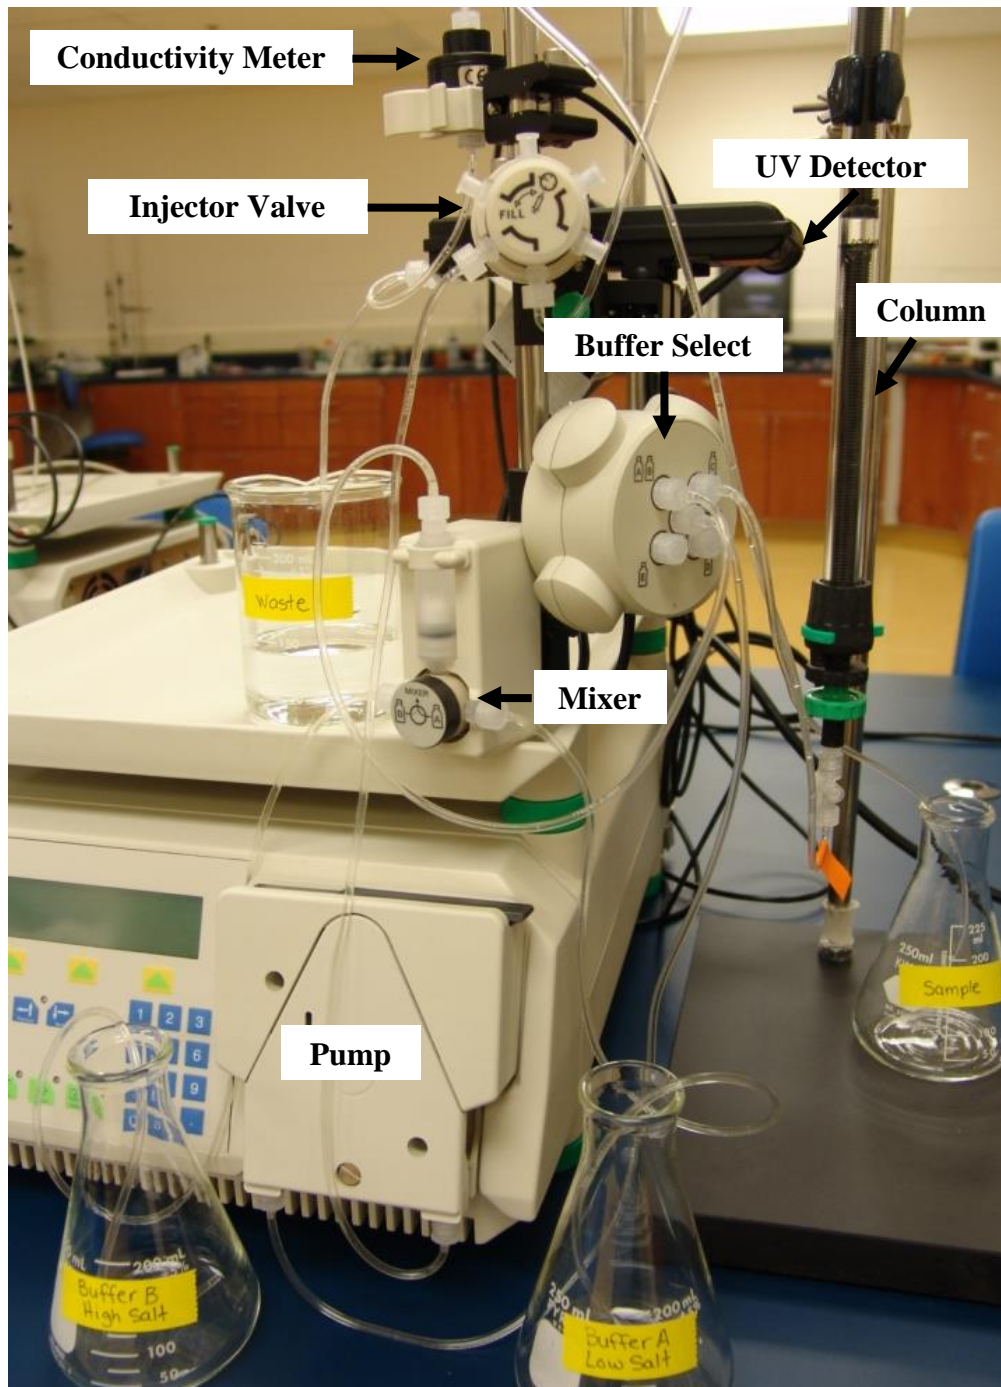

Figure 3: LP Biologic System Parts
- 9.3. Figure 3: LP Biologic System Parts